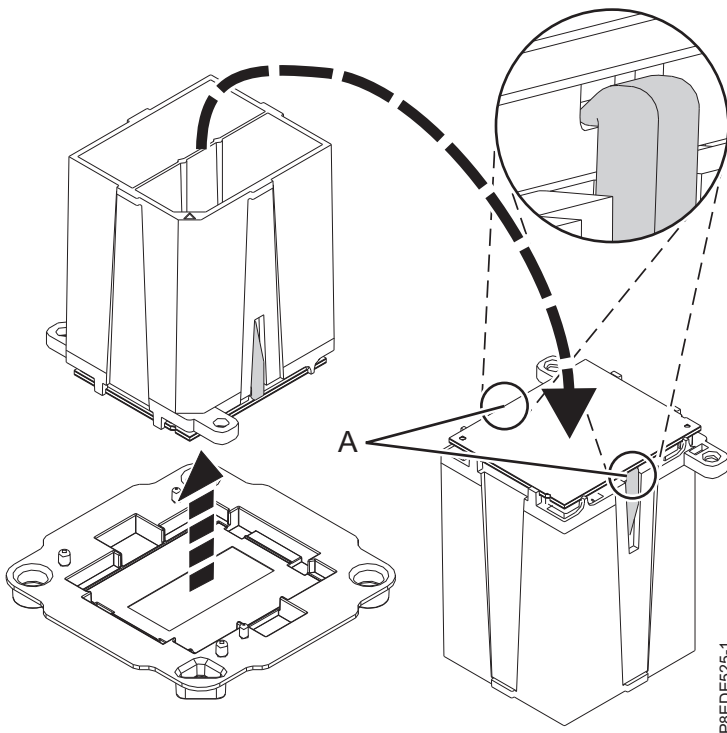

Figure 90. Preparing for system processor module installation
- b. Ensure that both jaws (A) are firmly grabbing the system processor module, as shown in Figure 90.